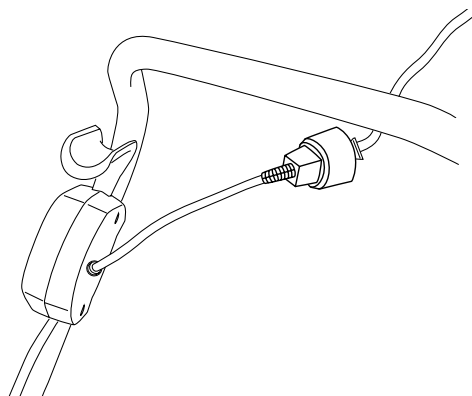

Figure 13
3. Connect the female end of extension cord to the male plug in the cable/plug (Fig. 13).